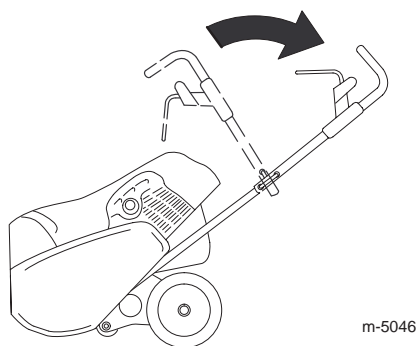

Figure 4
3. Position the upper handle as shown in Figure 4.